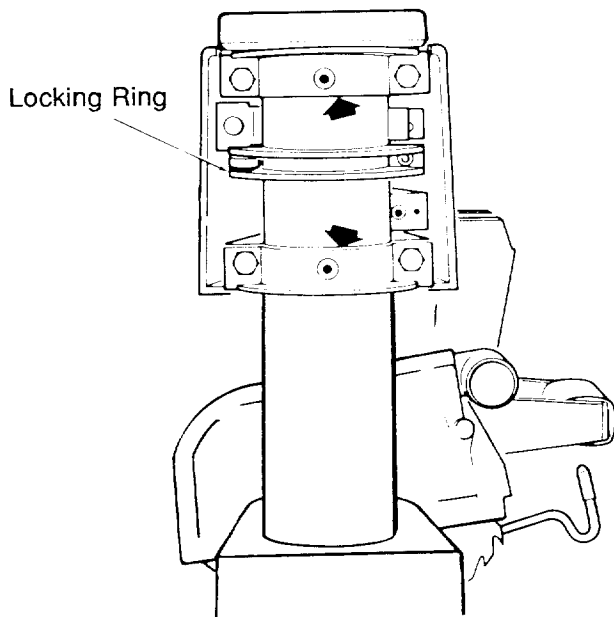

Fig. 174 - Bearing Points Where Arm Attaches to Column Tube
- Lubricate the bearing points where the *arm* attaches to the *column tube*. With a #2 Phillips screwdriver remove two screws and the rear arm cover for access to these points. Be careful not to get lubricant on the *locking rings* as this will adversely affect the miter locking function. (Figure 174)